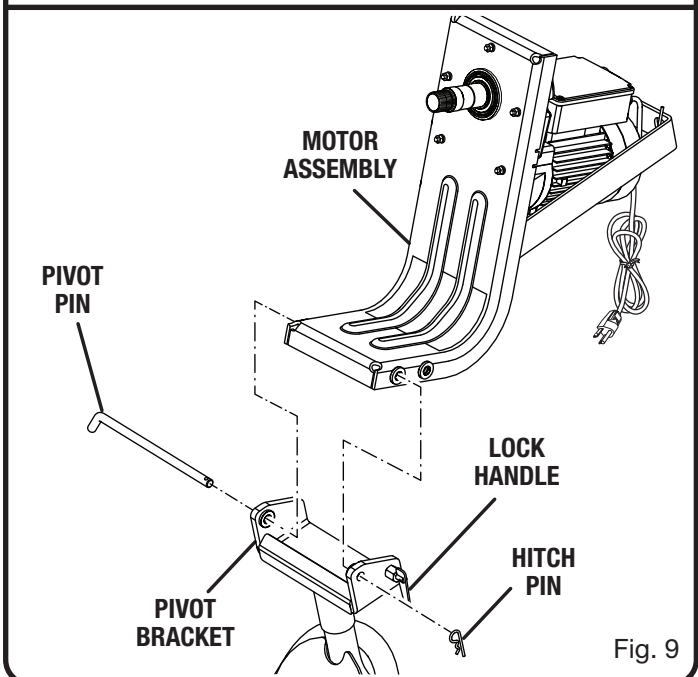

Fig. 9
See Figures 9 - 10.
- NOTE:** One side of the motor assembly has two holes and the other has one. The side with two holes should be on the same side as the lock handle as shown in figure 9.
NOTE: One side of the motor assembly has two holes and the other has one. The side with two holes should be on the same side as the lock handle as shown in figure 9.